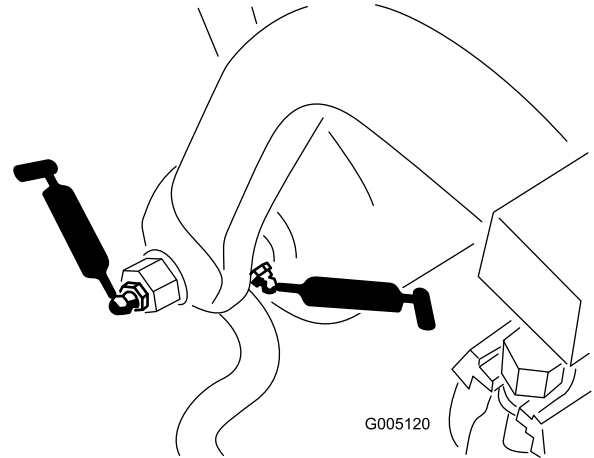

Figure 28
- Pull frame shaft and roller (12) (Figure 28)